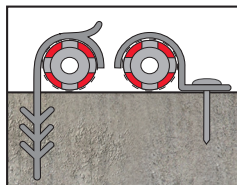

fig. 4
- The PVC hose ends are closed with the Closure Plugs to avoid the entry of other materials. **(fig. 4)**